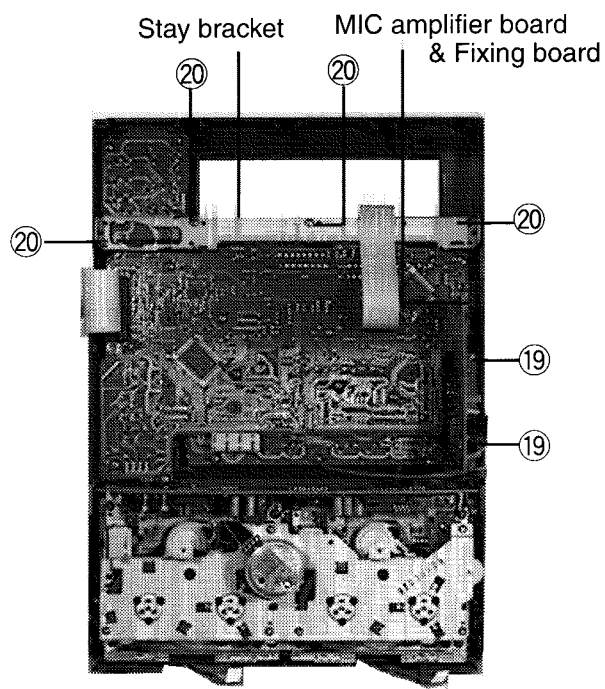

Fig. 19
■ Removal of the FL Drive, MIC Amplifier Board (See Figs 19,20)
6. Remove the two screws ⑲ fastening the fixing board, take out the MIC amplifier board .(See Fig.19)
6. Remove the four screws ⑳ fastening the stay bracket from the inside of the front panel assembly.(See Fig.19)